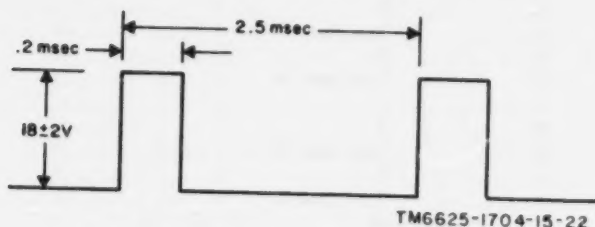

Figure 8-2. Waveform output at pin H of TJ4.
n. Observe waveform as shown in figure 8-2 at pin H of TJ4. Turn AC and DC POWER switches OFF and remove extender cord.